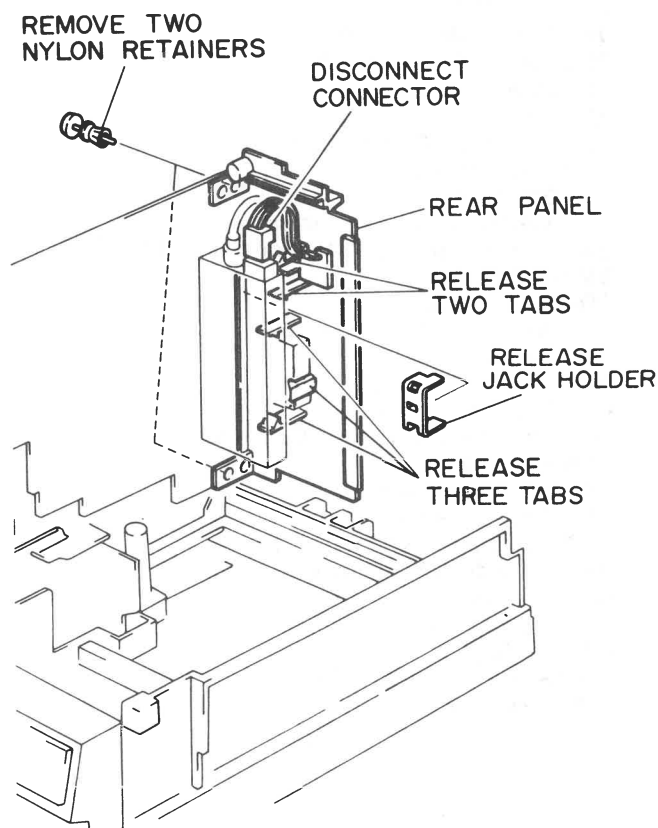

Fig. 4 Rear Panel Removal
### Rear Panel Removal (Fig. 4)
2. Release the Main circuit board and refer to Fig. 4.